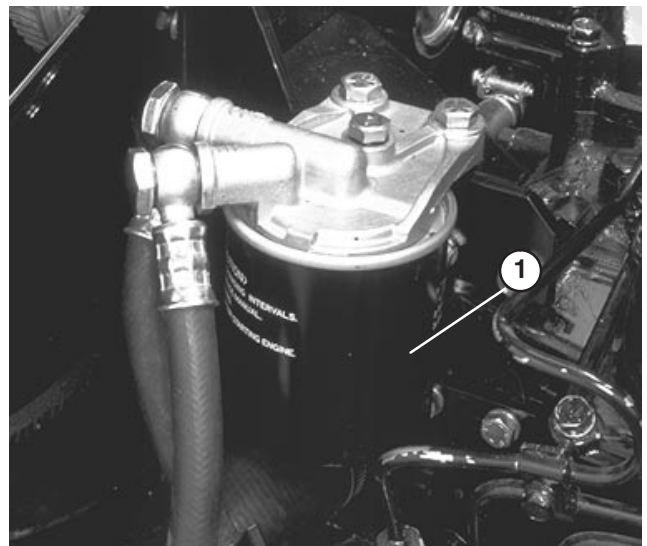

Figure 38
3. Every 1000 hours operation, or yearly, replace the engine fuel filter (Fig. 38) — left front side of engine — and drain water from the fuel tank. Apply clean fuel oil to the filter O-ring. Use hands only to install and tighten filter.